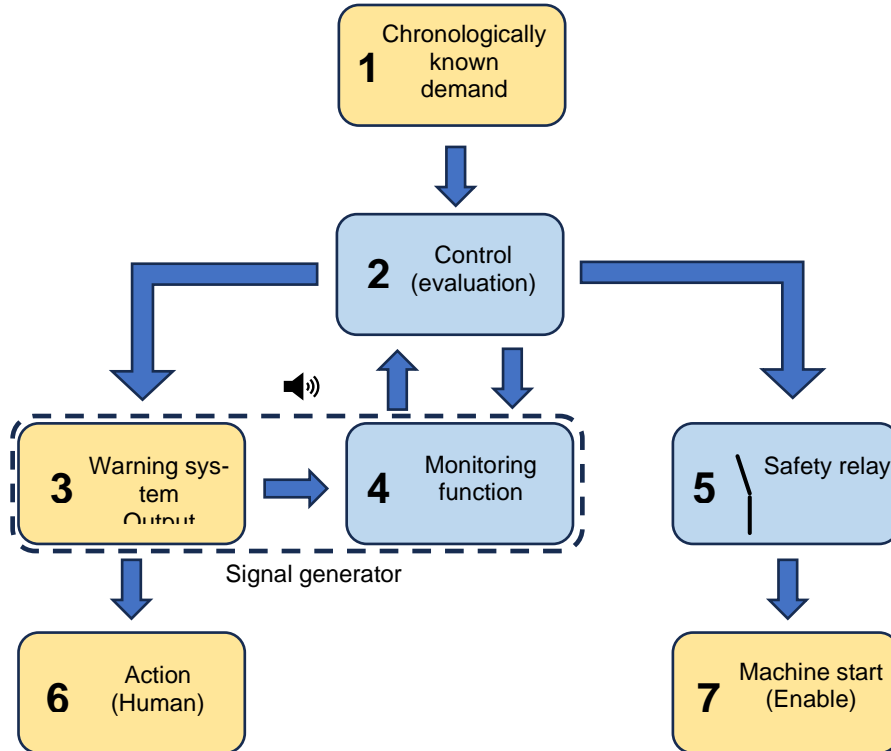
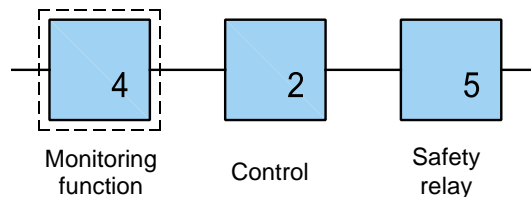

Fig. 7 Start-up warning
Fig. 8 Safety-relevant block diagram
When used as a start-up warning of machines, the function of the generation of the acoustic warning signal can be evaluated as the function of the machine, see also chapter 21.2.2 par. b). The monitoring function diagnoses this function and initiates the safe state by a safety loop in case of failure. This architecture is shown schematically in Fig. 7.
- The start-up warning is used as follows after demand of the safety function, see also Fig. 7 and Fig. 8.
- If test was successful, triggering of machine start (7)
- The monitoring function (4) diagnoses the function of the acoustic warning system (3) and reports OK to a higher-level system (2).
- If no OK is reported, the higher-level control and guidance system (2) initiates the safe condition by other measures (5).